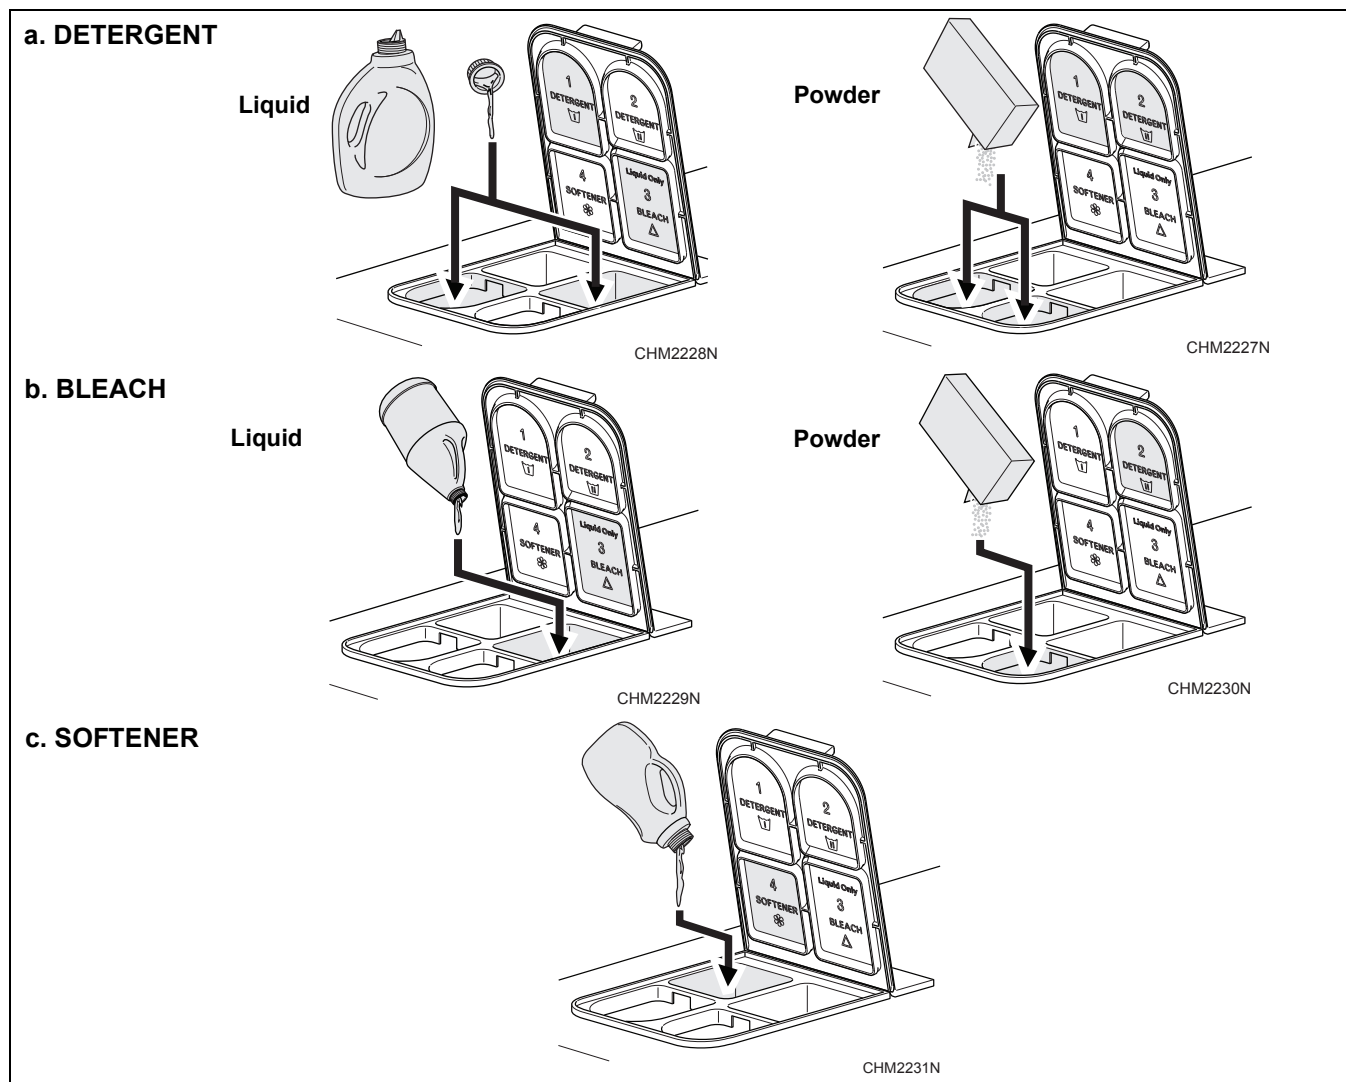

Figure 57
7. Add liquid and/or powder supplies to supply dispenser. Refer to *Figure 57*.